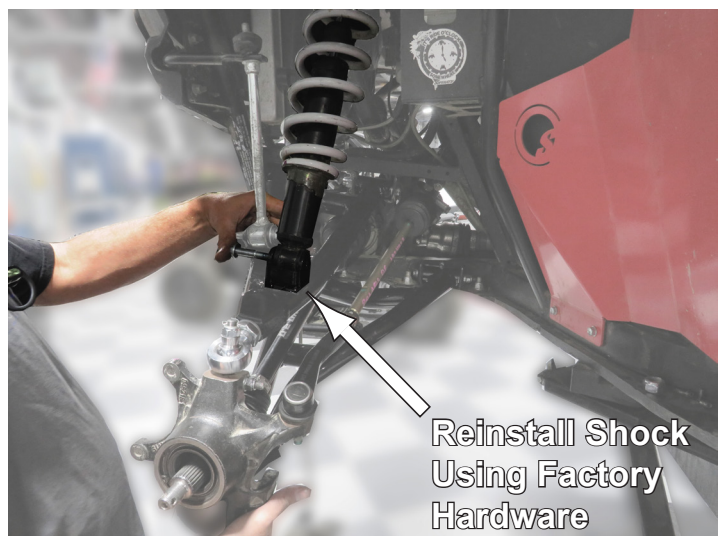

Fig.14
12. Then, reinstall the Factory Shock as shown in **Fig.14**.